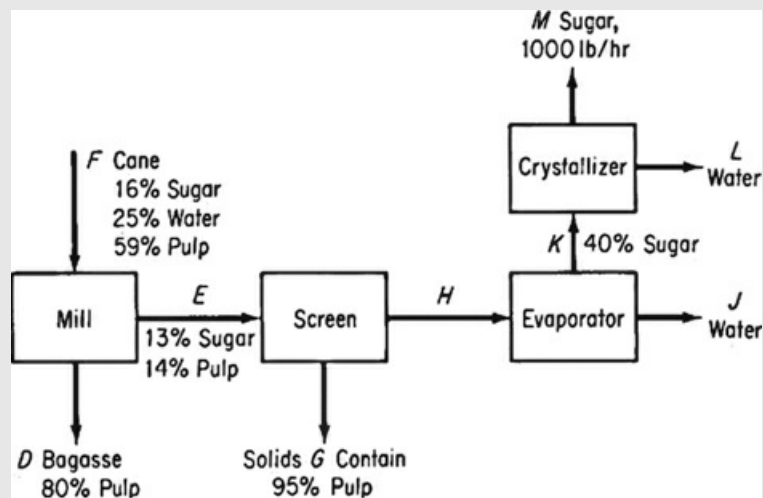

Figure E5.4
Figure E5.4 shows the process and the known data. You are asked to calculate the compositions of every flow stream, and the fraction of the sugar in the cane (F) that is recovered in M .
All of the known data have been placed on Figure E5.4. The process is an open, steady-state system without reaction. If you examine the figure, two questions naturally arise: What basis should you pick, and what system should you pick to start the analysis? The selection of certain bases and certain systems can lead to more equations that have to be solved simultaneously than others. You could pick as a basis $F = 100$ lb, or $M = 1000$ lb (the same as 1 hr), or the value of any of the intermediate flow streams. You could pick an overall process as the system to start with, or any of the individual units, or any consecutive combinations of units. We pick M because its value is specified.